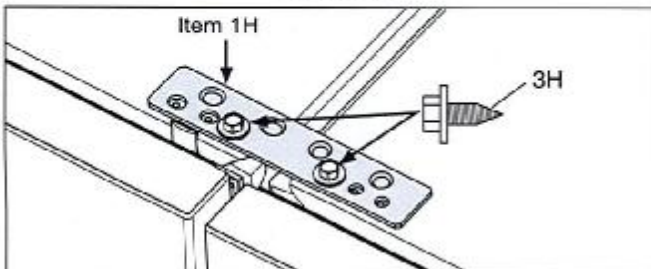

Figure 7.
- c. Tie units together with the common mounting bracket at the front top with two screws in the inner two screw holes by using a 3/8" socket. (See Figure 7)